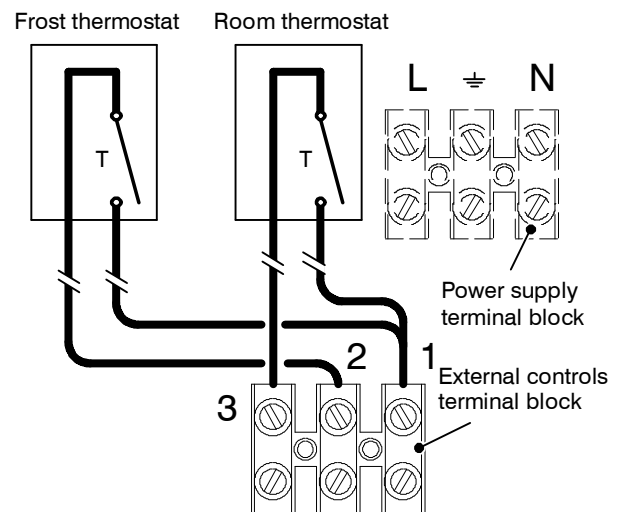

Fig. 6.15
- 10 Connect the frost thermostat between terminals 1 and 2 as shown in Fig. 6.15.